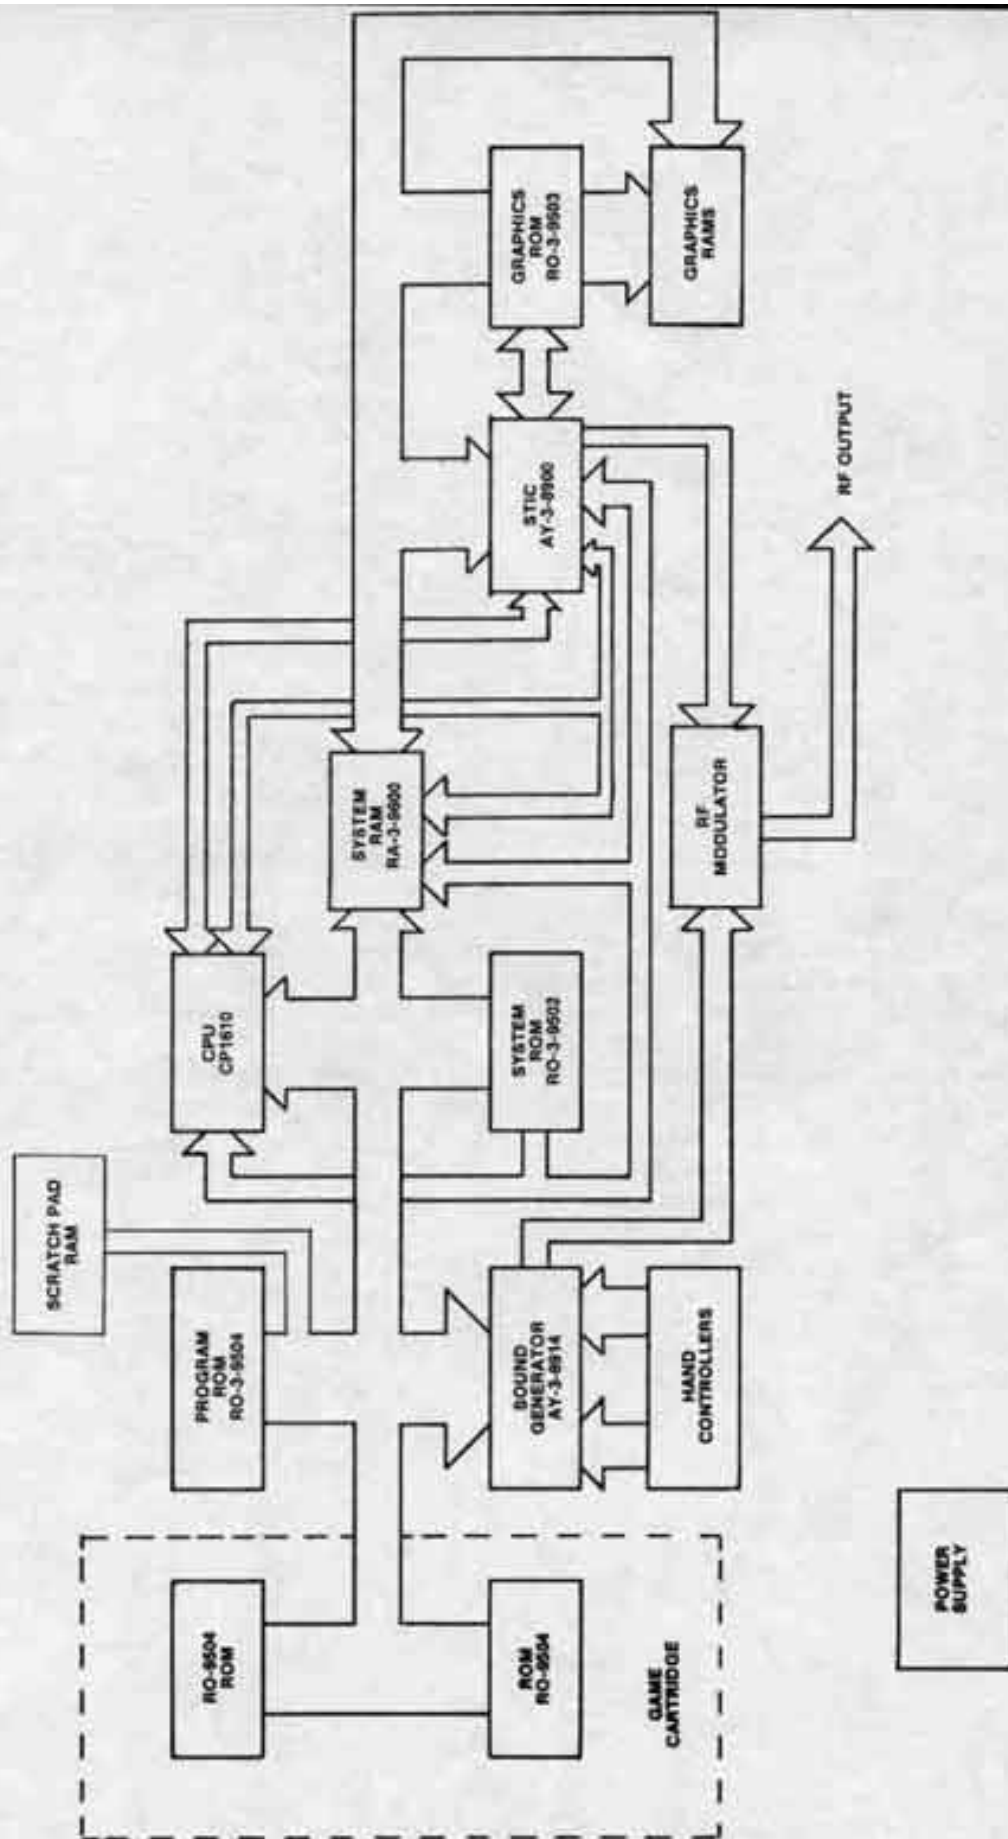

Figure 1-2 System Block Diagram
**1-5. THEORY OF OPERATION.** The following paragraphs provide functional theory of operation for the Master Component. Detailed operational characteristics for PCB LOGIC IC's, RF modulator and the power transformer are provided in Section 7. Schematic diagrams for the PCB Power Supply and PCB LOGIC are also provided in Section 7. Figure 1-2 is a functional block diagram of the Master Component.